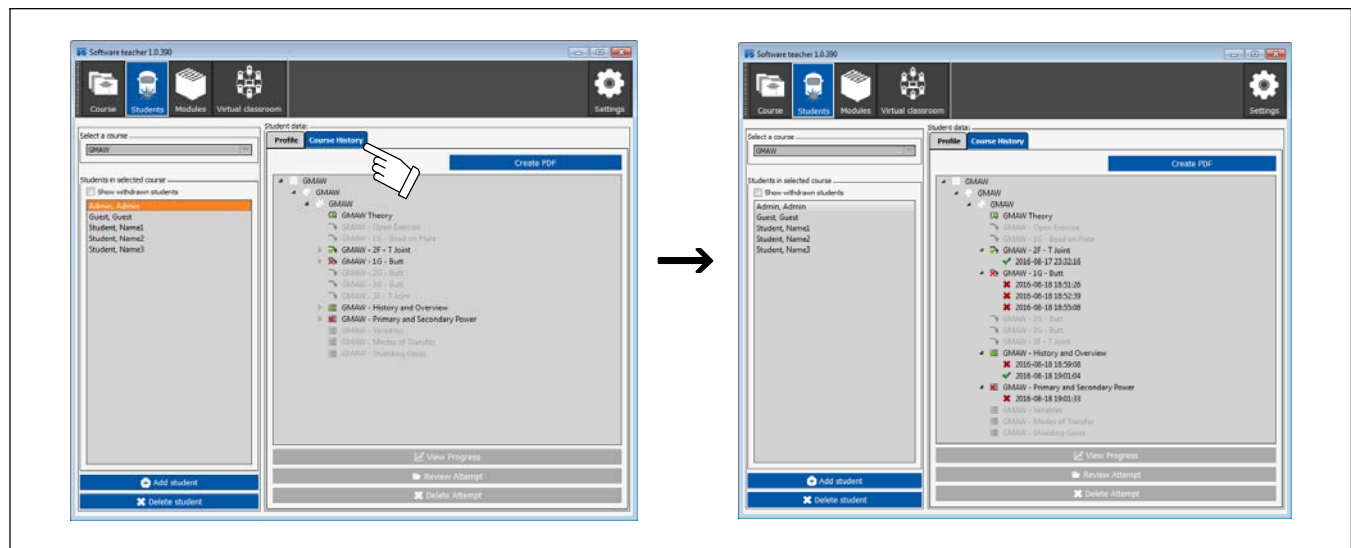

Figure 9-27. Student Course History Screen
A. Student Information (Figure 9-27)